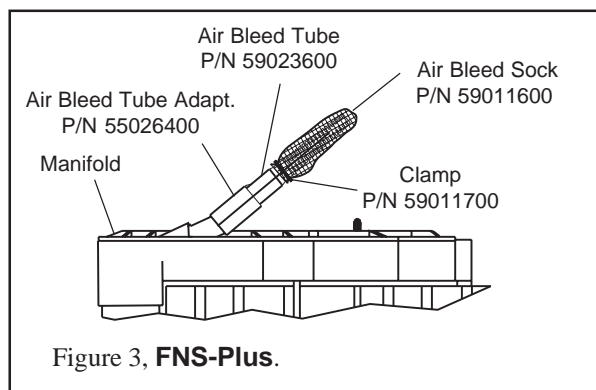

Figure 3, FNS-Plus.
- b. Spread the clamp open, and lift off of the tube, see Figure 3.